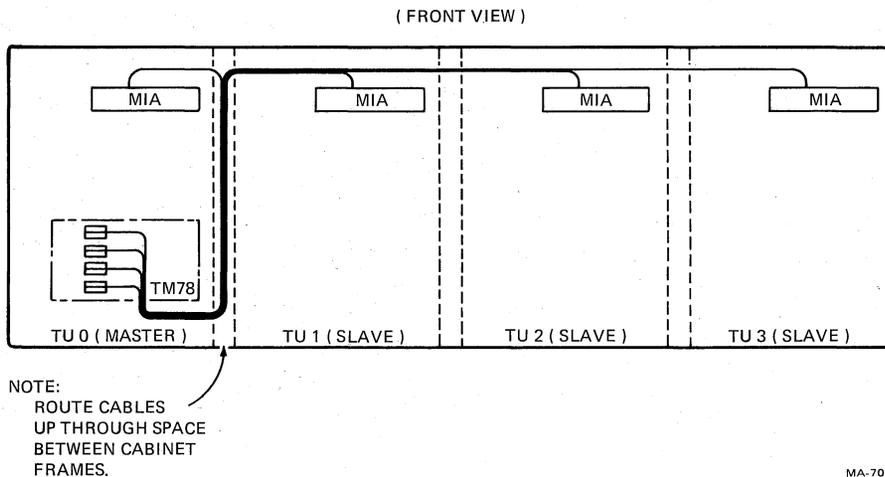

Figure 3-12 TU Bus Cable Routing for a Multiple Transport Configuration
**Before performing the next step, the TU bus cables for all slave transports must be laid in loosely between the master and first slave (Figure 3-12). There are two 4.6 m (15 ft) cables (PN 70-17382-15) for each slave. Orient the cables so that the red stripe on the side faces the rear of the cabinet. Do not tape the cables together since this would inhibit the replacement of a single cable in the event of failure.**
9. Install the TU bus cables between the TM78 in the master transport and the slave transport(s). Figure 3-12 shows the positioning of the cables relative to the cabinet frames. The TU bus for the master transport is prewired at the factory. Figure 3-13 shows the electrical connection for each TU bus cable. Start at the TM78 end of the cable and work toward the MIA (multiple interface adapter) end.
12. Repeat this procedure for each set of cables going to each slave transport. The cables for each succeeding transport should be layed over the preceding transports MIA card (Figure 3-12).